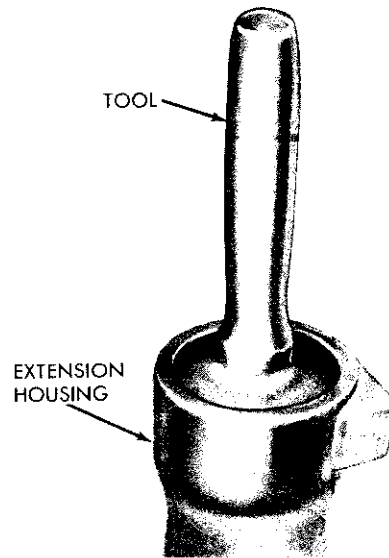

Fig. 41—Installing Output Shaft Bearing (Imperial Models)
- (3) Place a new bearing in the opening of the extension housing. Using Tool C-3204 drive the bearing into the housing (Fig. 41). Install the bearing retaining snap ring.